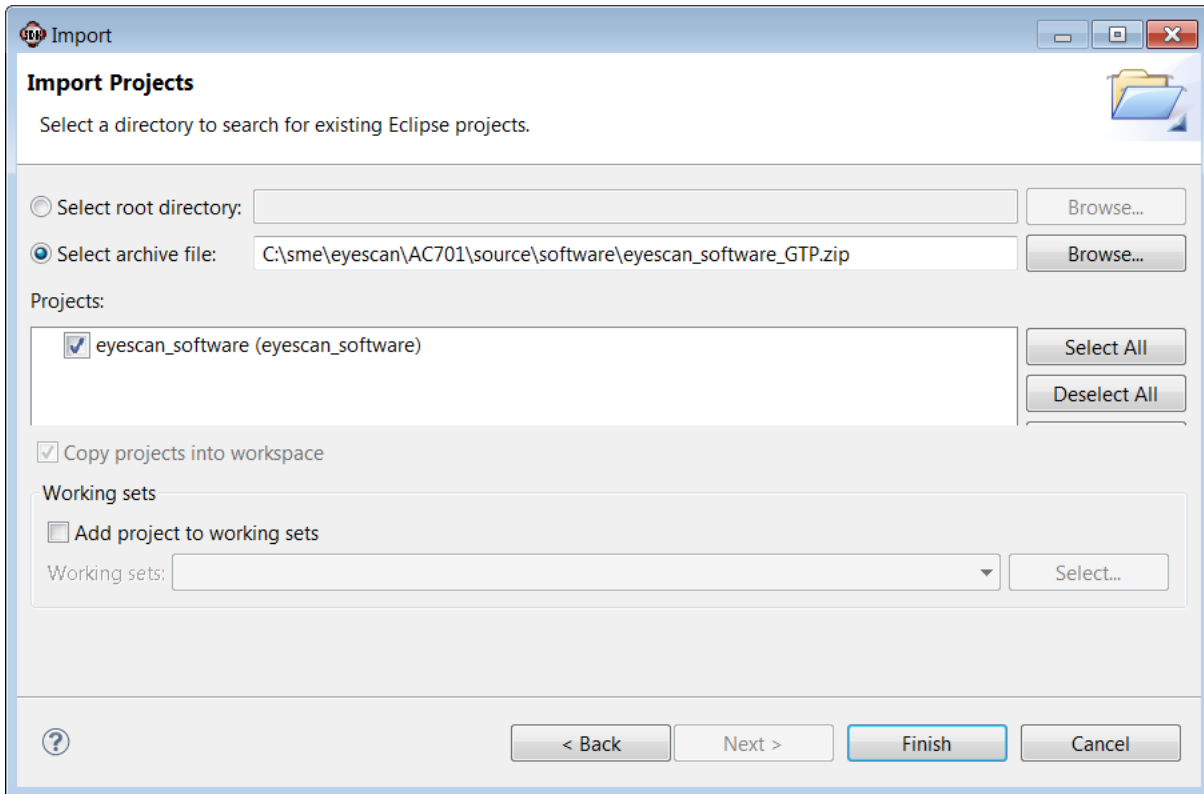

Figure 17: Importing an Archive File
10. In the next window, choose the **Select** archive file: option and browse for the appropriate zip file in the “source/software” directory. The appropriate file is referring to either the GTP, GTX, or GTH software file. In the **Projects** panel, make sure the software directory is selected as shown in Figure 17. Click **Finish**.